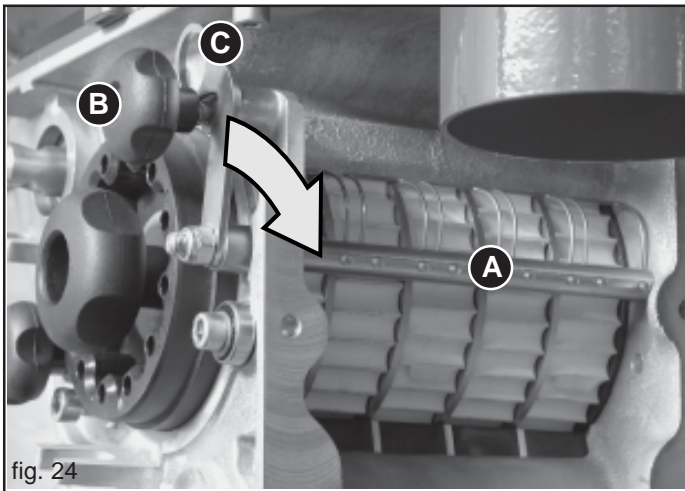

fig. 24
Cleaning spring elements (A, Fig. 24) are used during the distribution of oily seeds by means of the yellow seeding roller, *mod. F25-125*.
... loosen the knob (B, Fig. 24), remove the levers (C) from their housing and move them in the direction shown by the arrow.
- 1) Loosen and remove the knob (B, Fig. 24). Then, move the lever (C) in the direction shown by the arrow.